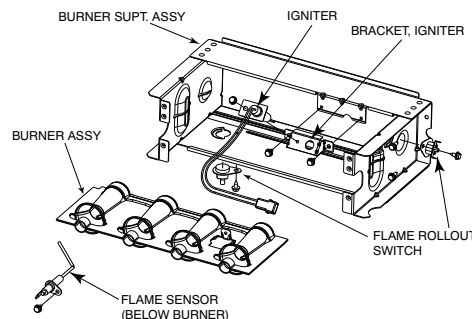
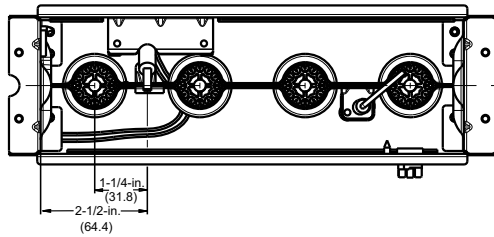
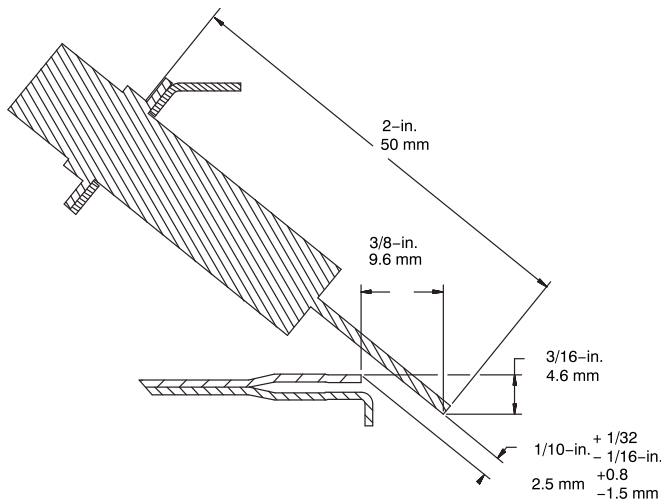

Fig. 67 – Burner Assembly
Fig. 68 – Igniter Position - Top View
Fig. 69 – Igniter Position - Side View
Refer to Fig. 67.
8. Check the igniter alignment. See Fig. 68, Fig. 69 and Fig. 67.
The igniter does **NOT** require annual inspection. Check igniter resistance before removal. Refer to Fig. 68, Fig. 69 and Fig. 67.
- a. Using a 1/4-in. driver, remove the two screws securing the igniter mounting bracket to the burner assembly. See Fig. 67.
6. To replace igniter and bracket assembly, reverse items 5a through 5d.
7. Reconnect igniter harness to the igniter, dressing the igniter wires to ensure there is no tension on the igniter itself. See Fig. 67.